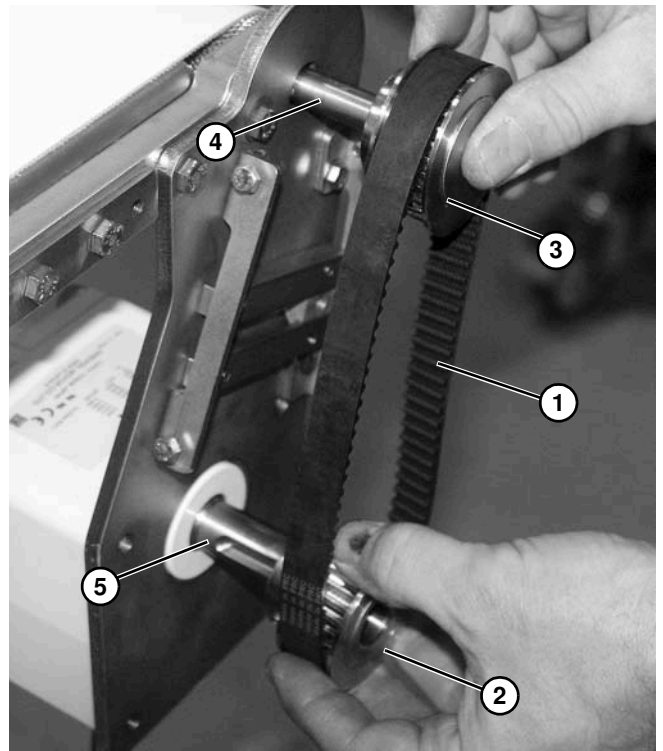

Figure 43
Make sure sprocket keys are installed on conveyor input shaft (**Figure 43, item 4**) and gearmotor output shaft (**Figure 43, item 5**).
6. Install new timing belt (**Figure 43, item 1**) over drive sprocket (**Figure 43, item 2**) and driven sprocket (**Figure 43, item 3**). Install timing belt and sprockets on conveyor input shaft (**Figure 43, item 4**) and gearmotor output shaft (**Figure 43, item 5**). Do not tighten sprocket set screws.